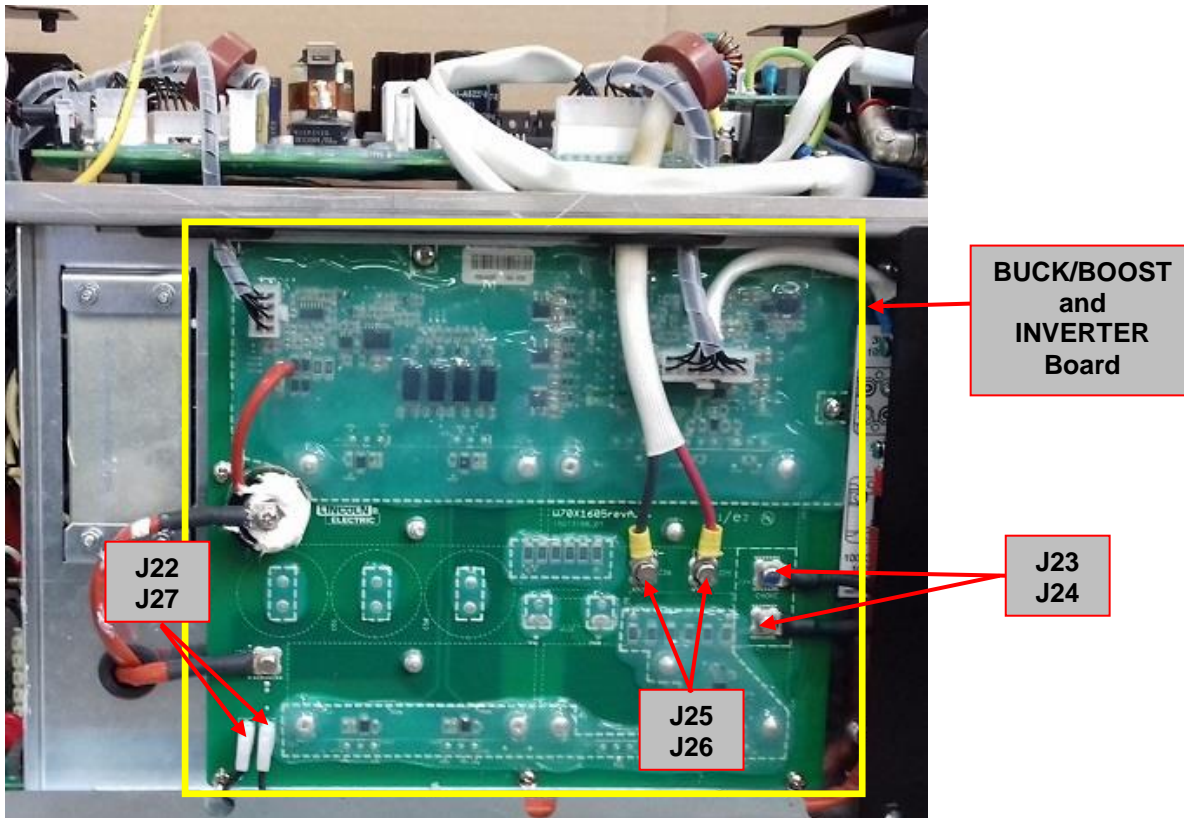

Figure 5 – W05X1605 BOOST and INVERTER Board location
3. Locate the Boost and Inverter board on the right side of the machine. See **Figure 5**.
5. Perform the Boost and Inverter circuits resistance tests detailed in **Test Table 5, 5a**. See **Figure 5** for Test Point locations